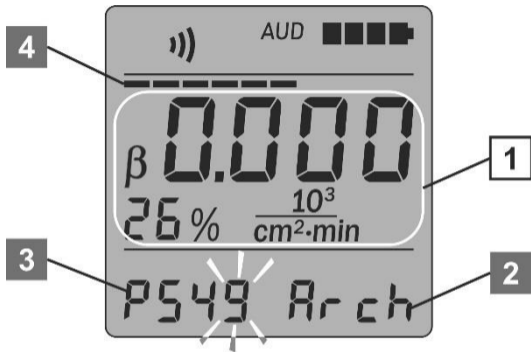

Figure 20 – LCD of the dosimeter
The “Arch” symbols (2) on the LCD of the dosimeter are an indication of the submode of measurement result saving (Figure 20). In this submode the LCD displays the measurement result (1) and the measurement object number (3) that will be saved in the nonvolatile memory. The nonvolatile memory status is displayed on the instantaneous value indicator (4). If the nonvolatile memory contains no data, only the first segment is highlighted on the indicator. If the memory is full, all segments are highlighted.